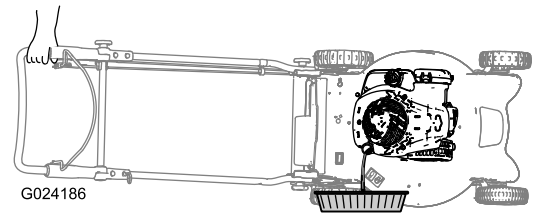

Figure 16
3. Tip the machine onto its side, with the dipstick down, to drain the used oil out through the oil-fill tube (Figure 16).